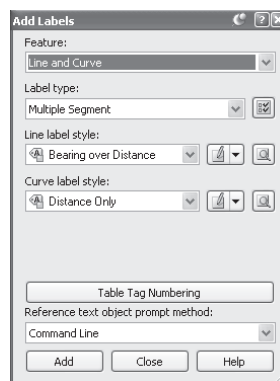

Figure 3.9
3. In the Add Labels dialog, change the Label type to Multiple Segment. Confirm that the Line label style is set to Bearing over Distance and the Curve label style is set to Distance Only, as shown in Figure 3.9. Click Add.